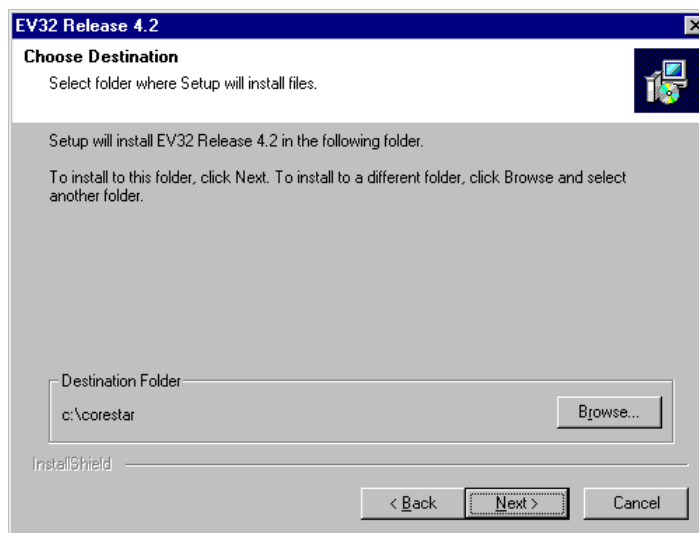

Figure 2-2. Installation Destination Window
5. The window shown in Figure 2-2 appears. The installation program defaults to an installation directory named *c:\corestar*. Click the **Browse** button to select a different installation drive and/or directory. If the desired directory doesn't already exist, the installation program will create it. Example: *d:\corestar*. Finally, click the **Next** button to continue.